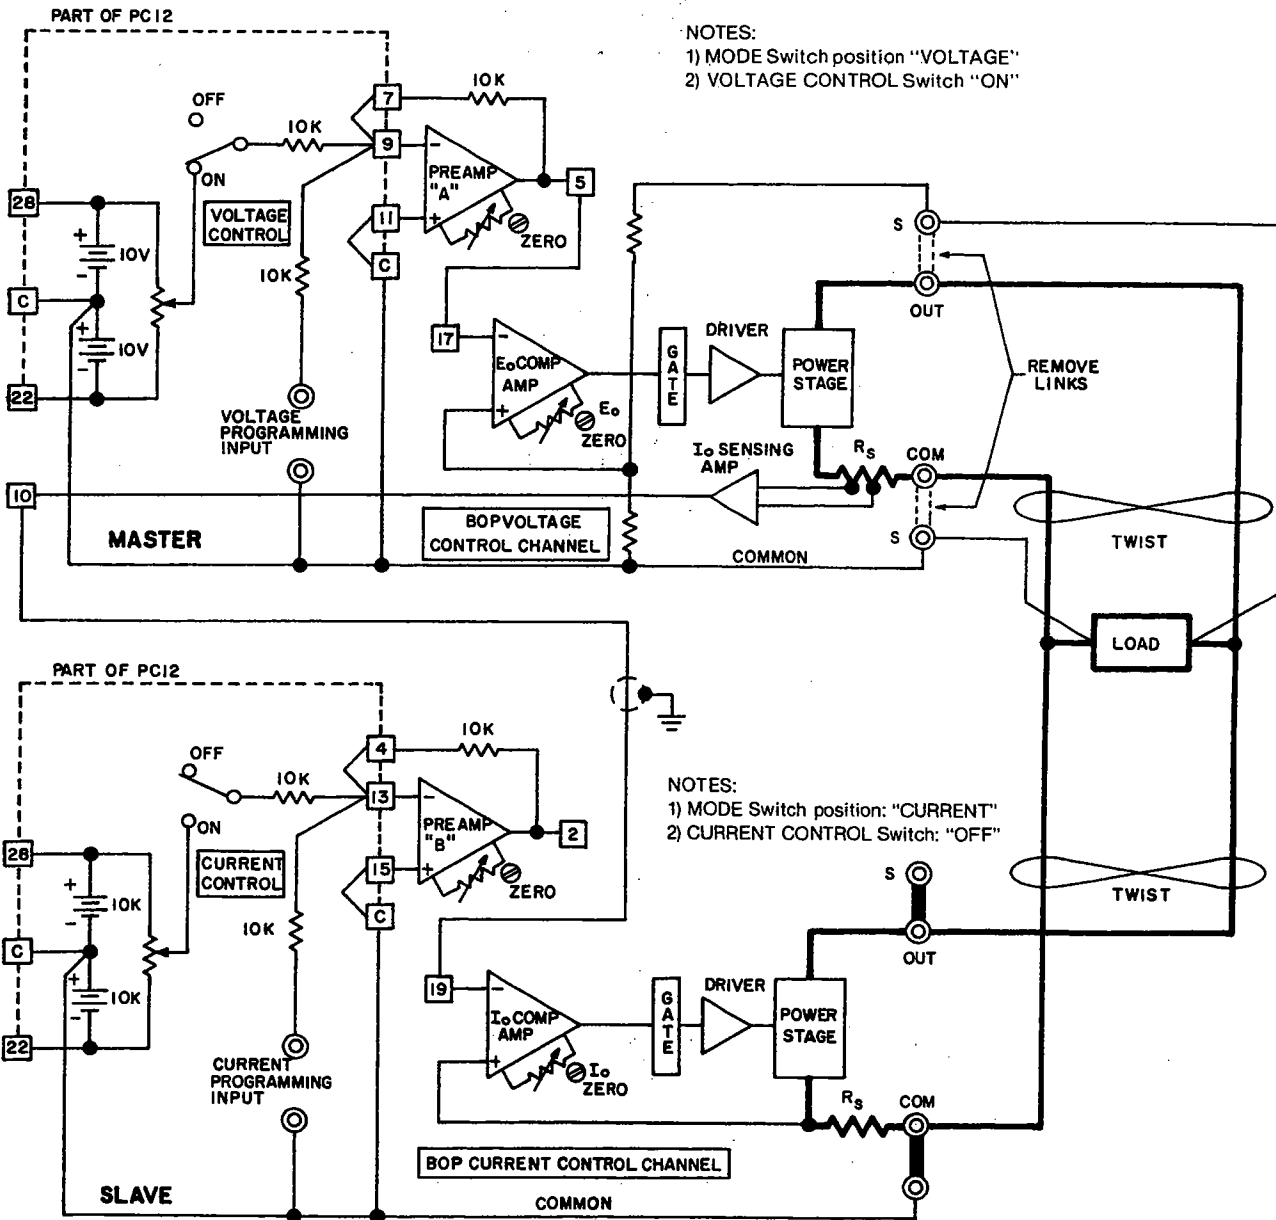

FIG. 3-27 MASTER/SLAVE PARALLEL CONNECTION OF TWO BOP POWER SUPPLIES
- 1) Connect the BOP supplies as shown in FIG. 3-27. Set the MODE switches and the VOLTAGE and CURRENT CONTROL switches as directed in the set-up Diagram, FIG. 3-27. Load-wire size should be as large as practicable and load-wire pairs should be twisted to keep the d-c resistance, as well as the inductance, as low as possible. Use shielded cable for the drive signal connection between the BOP's. Connect the shield to common ground. Either the positive or the negative output side of the system can be grounded.
- 3) Following the set-up procedure as described above, turn BOP's "on" and commence operation. The system as shown in the set-up diagram (FIG. 3-27) operates in the Voltage Mode, since the MASTER MODE switch is in "VOLTAGE" position. For operation in the current mode, transfer the MASTER MODE switch to "CURRENT".
- 3-44** To add more BOP units to the parallel system shown in FIG. 3-27, simply place the output leads of the unit to be added in parallel to the load. Set its MODE switch to CURRENT and its CURRENT CONTROL switch to OFF. Now connect another shielded cable from the BOP designated MASTER in FIG. 3-27, terminal [10] on PC-12, to the new BOP to be added, PC-12 terminal [19].